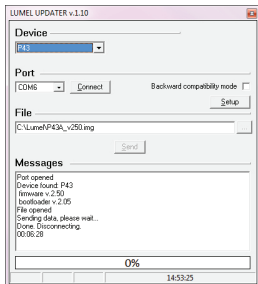

Fig. 20. The view of program window: a) LPCon, b) program updating
After LPCon has been started, one ought to set serial port, baud rate, mode and the transducer address in Options. Then choose the P43 transducer from the menu Devices and click the icon Read in order to read all set parameters (necessary for their later restoration). After selecting from the menu Updating the option Device software updating, the Lumel Updater (LU) window opens – Fig. 20 b. Press Connect. The information window Messages contains information on the updating process. At the correctly opened port, the message Port opened displays.